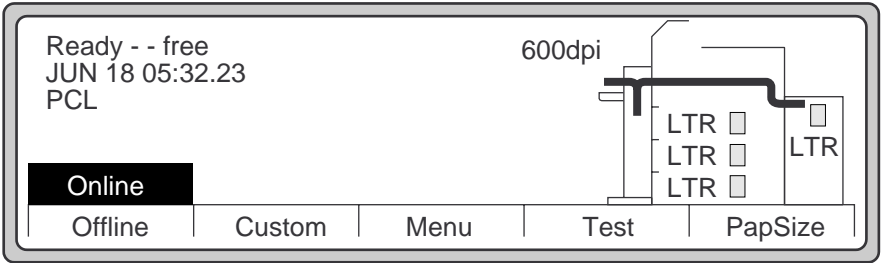

Figure 2-91 Main Screen
2. Press the **Test** button on the **Main Screen**, shown in Figure 2-91.